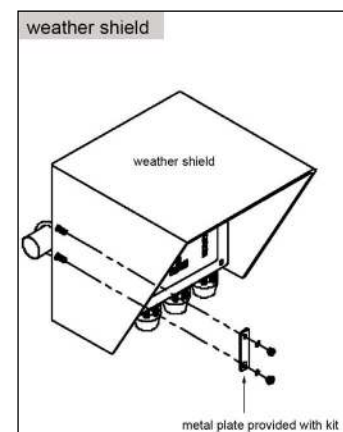

Figure 3.9
2. At step 3 (surface mount) or step 4 (rail mount), attach the weather shield to the surface or rail with the metal plate installed to secure the weather shield to the surface or rail. Figure 3.9 shows the weather shield installed for a rail mounted 5200A.